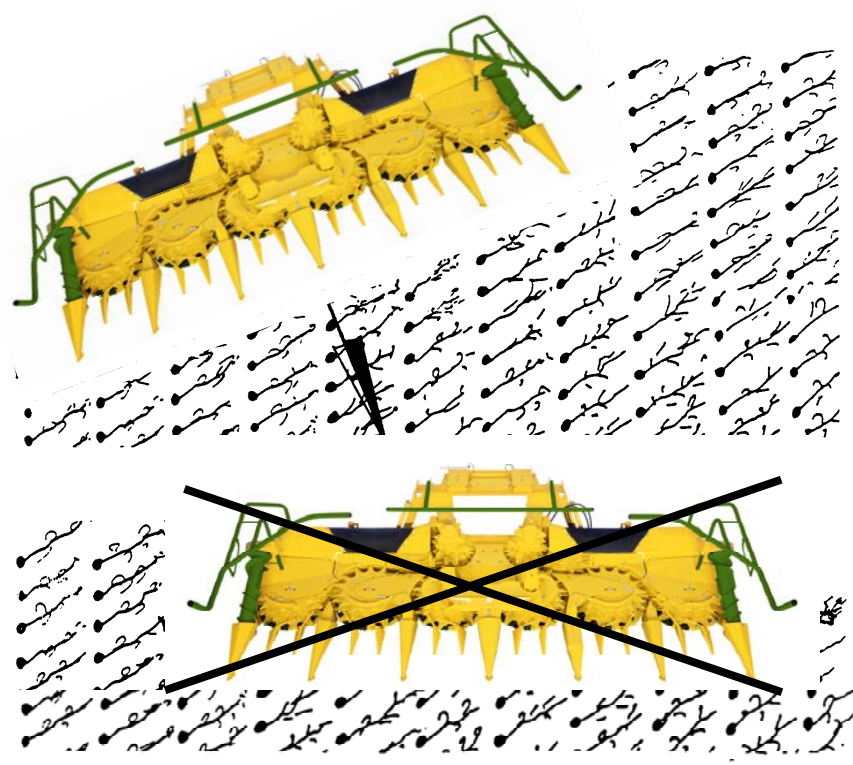

Fig. 2
- In most cases, it is best to approach crops at a crosswise angle to the direction in which the stalks are positioned. See Fig. 2